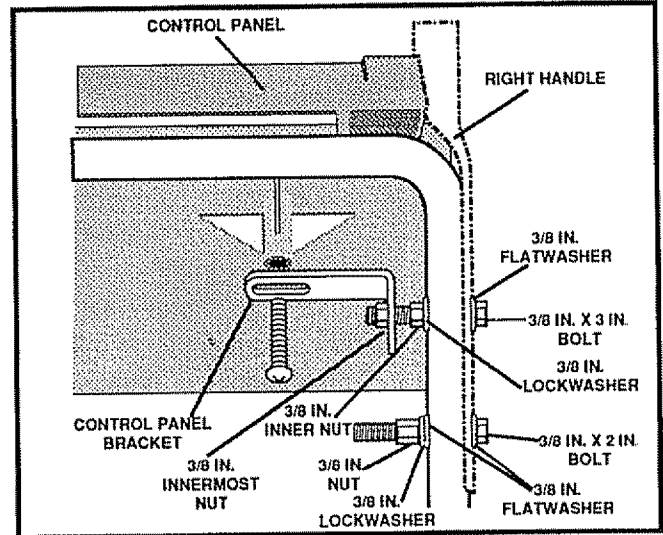

FIG. 4A
- With two 9/16 inch wrenches, loosen (but do not remove) both bolts securing the upper and lower handles by holding the inner nut on the inside of the handle while turning the outside bolt counter-clockwise as shown in Fig. 4A, page 8.
- Hold the inner nut and tighten the outside bolt up against the handle as shown in Fig. 4A, page 8
- While holding the outside bolt, tighten the innermost nut up against the control panel bracket as shown in Fig. 4A, page 8.
- On the right side of the handle, install and secure the following parts (found in parts box) in the lower handle hole as shown in Fig. 4A: